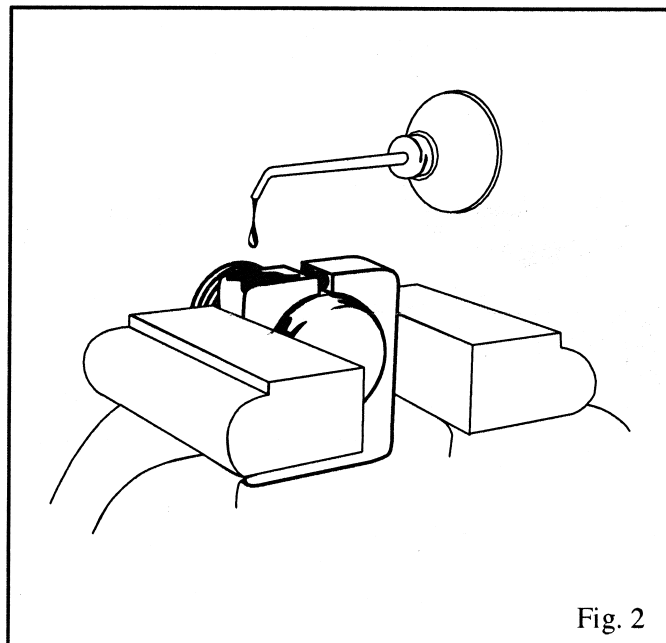

Fig. 2
1. Place the mortise cylinder through the holder hole until the holder butts up against the cylinder neck (see Fig. 2).